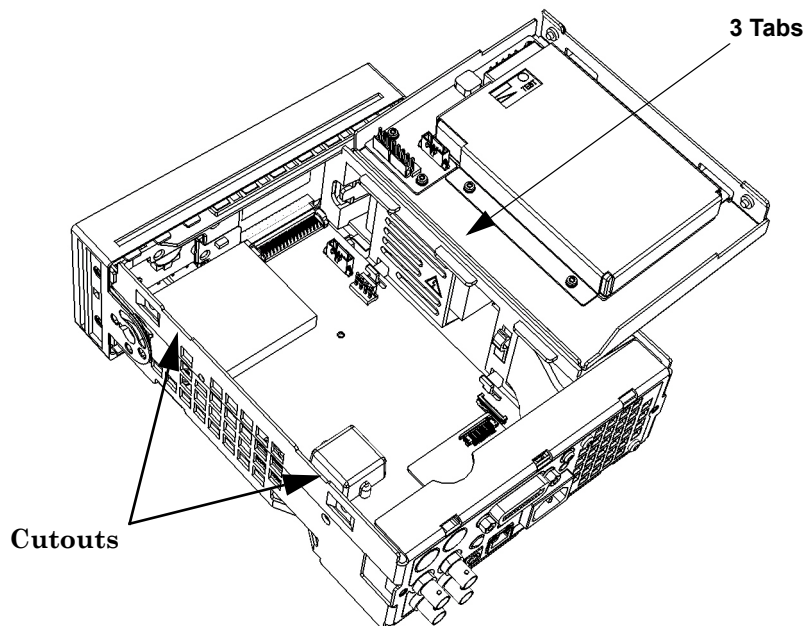

Figure 4-6. Battery Assembly Held By Three Small Tabs
- 9 Move the whole assembly from the three small tabs and insert the three large tabs on the plastic AC power supply cover into the three slots on the battery assembly deck shown in Figure 4-6.